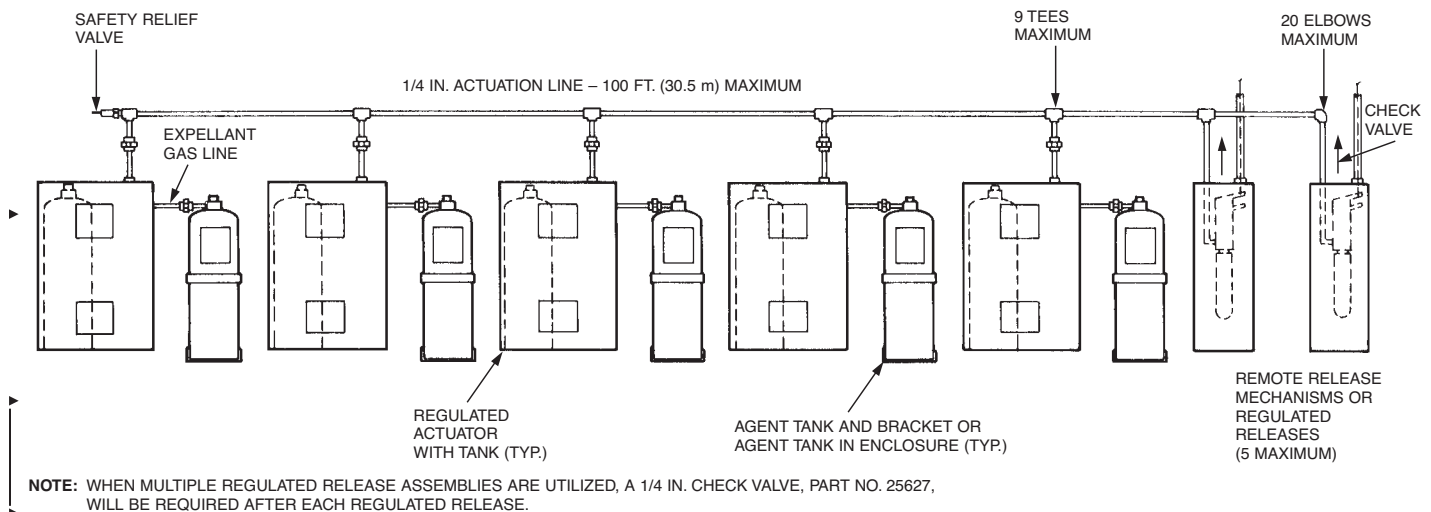

FIGURE 12
The maximum length of the actuation gas line from the remote release to all regulated actuators **must not** exceed 100 ft. (30.5). See Figure 12. **Note:** Stainless steel hose and fittings can be used. See Component Section for detailed information.
2. A maximum of nine tees and twenty elbows are allowed in the actuation piping. Two 45° elbows equal one 90° elbow. See Figure 12.
3. A safety relief valve (Part No. 15677) must be installed in the actuation piping. See Figure 12.